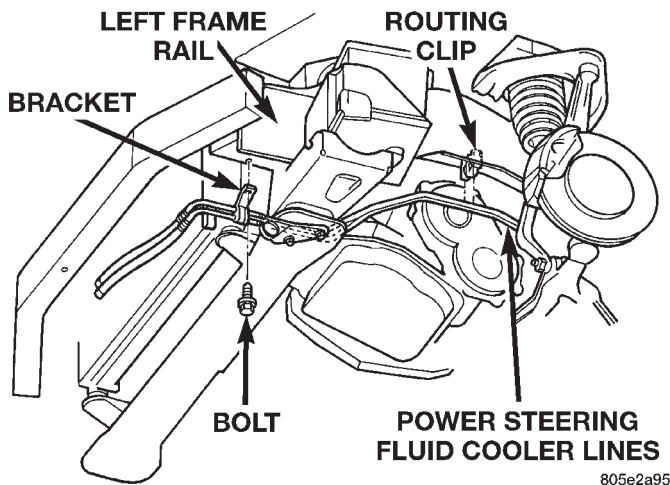
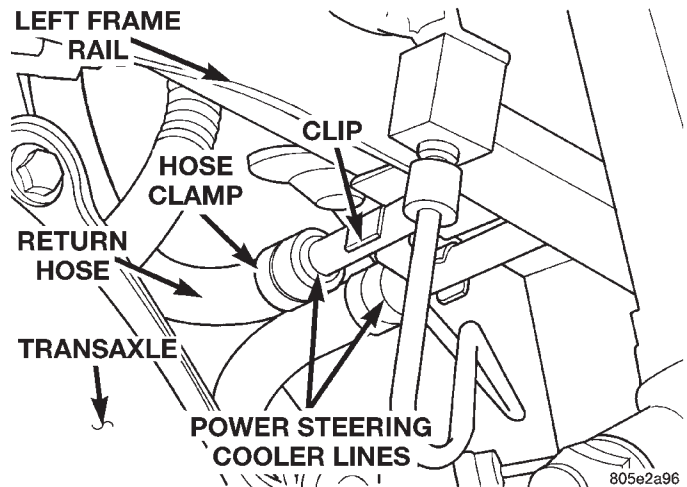

Fig. 41 Power Steering Cooler Line Attachment
Fig. 42 Power Steering Cooler Line Clip
(7) Remove the bracket attaching the power steering fluid cooler lines to the left front frame rail (Fig. 41).
(8) Lower the front suspension crossmember. Refer to the steering gear service procedures in this group of the service manual for the required procedure for the removal of the front suspension crossmember.
(9) Remove the clip (Fig. 42) holding the power steering fluid cooler lines together.
(10) Remove the hose clamp (Fig. 42) attaching the power steering fluid return hose from the engine, (Fig. 42) to the power steering fluid cooler lines.
(12) Remove the power steering fluid cooler lines from the routing clip on the left front frame rail (Fig. 41).
(13) Separate the power steering cooler line assembly into 2 separate pieces.
(14) Remove each cooler line separately from the vehicle. The cooler lines are removed out through the front of the vehicle in the area between the radiator and the closure panel.
(2) Install the cooler lines in the routing clip on the left frame rail (Fig. 41).
(3) Install the power steering fluid return hose coming from the engine on the power steering cooler line (Fig. 42). Install the hose clamp on the power steering fluid hose. **Be sure hose clamp is installed on hose past the upset bead on the power steering cooler line.**
(5) Install the clip (Fig. 42) holding the 2 power steering fluid cooler lines together.
(6) Install the front suspension crossmember. Refer to the steering gear service procedures in this group of the service manual for the required procedure for the installation of the front suspension crossmember.
(7) Install the left front wheel/tire.
(8) Install the bracket attaching the power steering cooler lines to the left frame rail (Fig. 41). Install bracket attaching bolt and tighten to a torque of 7 N·m (60 in. lbs.).